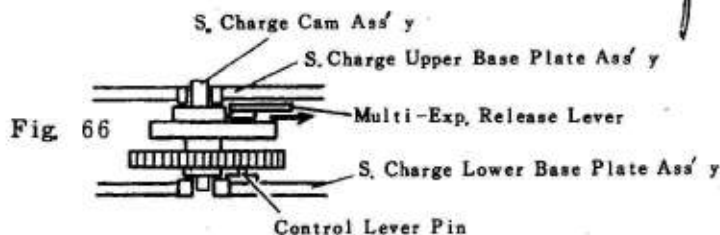

Fig. 66
7. Install in the order of the Shutter Charge Lever Ass'y (1AAAA630), the Friction Gear Ass'y (1AAAA620), the Shutter Charge Gear (4)(1AA46200) and Shutter Charge Gear (3)(1AA46110).
8. While sliding the Multi-Exp. Release Lever located under the Shutter Charge Upper Base Plate Ass'y (1AAAA610) in the direction of the arrow, (See Fig 66) install the Shutter Charge Upper Base Plate Ass'y.